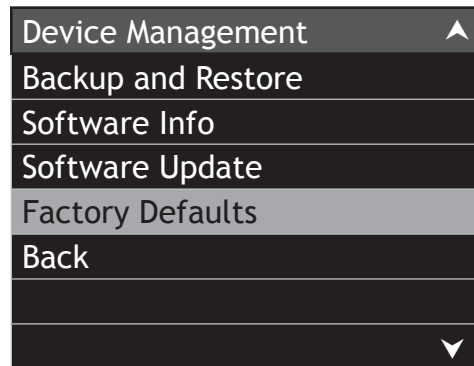

Figure 92
3. Scroll down to “Factory Defaults” and then press the SELECT Push-button. Refer to figure 92.